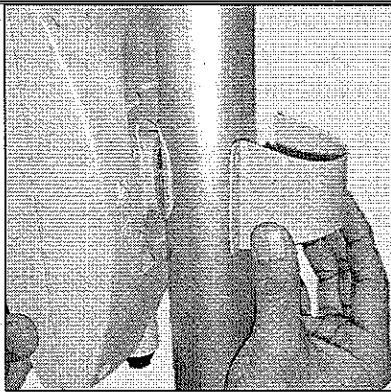

Figure 4-8a: Dismounting the EDA
2. Remove the EDA module from its mounting. Remove the four Phillips screws and remove the bracket (see Figure 4-8a).